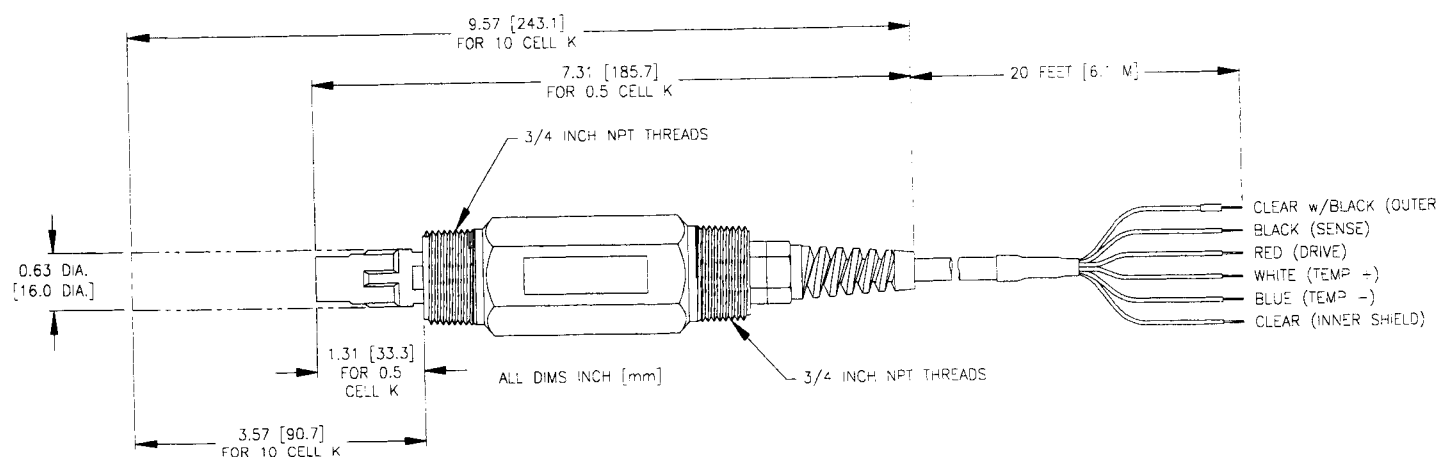

FIGURE 2-1 General Dimensions and Cable Wire Details
The CDE682-series non-metallic general purpose sensor can be mounted into a process line using an appropriately sized pipe tee, or onto the end of a pipe for immersion mounting. Figure 2-1 shows the sensor's general dimensions.
- Install the sensor into the pipe run so that the process flow directly contacts the end of the sensor (see Figure 2-1).
The sensor's integral cable is a 6-wire crosslinked polyethylene-jacketed cable with 4 conductors and two isolated shield wires. Refer to Figure 2-1 for the function and color of each wire in the sensor's integral cable.